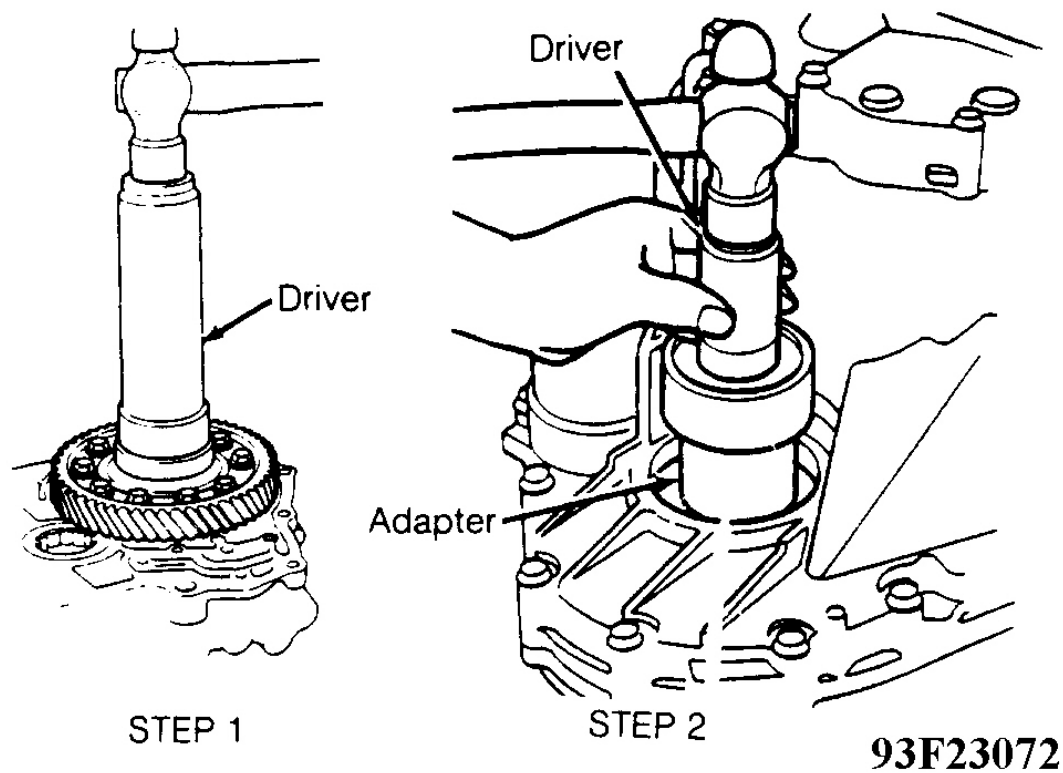

Fig. 35: Installing Differential Assembly
2. Install differential assembly in torque converter housing. Using Driver (07746-0030100), tap differential assembly into torque converter housing. Perform STEP 1. See **Fig. 35** . Ensure bearing on differential carrier is fully seated on torque converter housing.
4. Using Driver (07749-0010000) and Adapter (07947-6340500), tap on transaxle housing side of differential assembly to fully seat the bearings. Perform STEP 2. See **Fig. 35** . Ensure bearings are fully seated in both housings.
5. Install differential assembly in torque converter housing. Using Driver (07746-0030100), tap differential assembly into torque converter housing. Perform STEP 1. See **Fig. 35**. Ensure bearing on differential carrier is fully seated on torque converter housing.